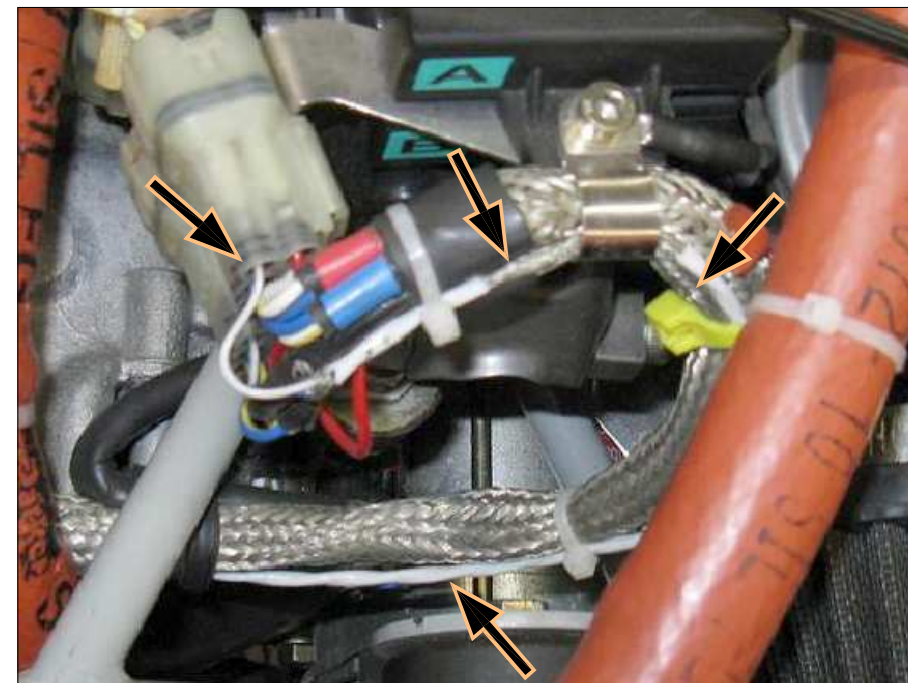

FIGURE 3:
Step 9: Route the WH-RV12-IGNITION Ignition Wiring Harness from the A and B plugs at the ignition modules along the shielded ignition cable to the right, down, and back to the left. See Figure 3 arrows. Tie wrap the wires along the way.